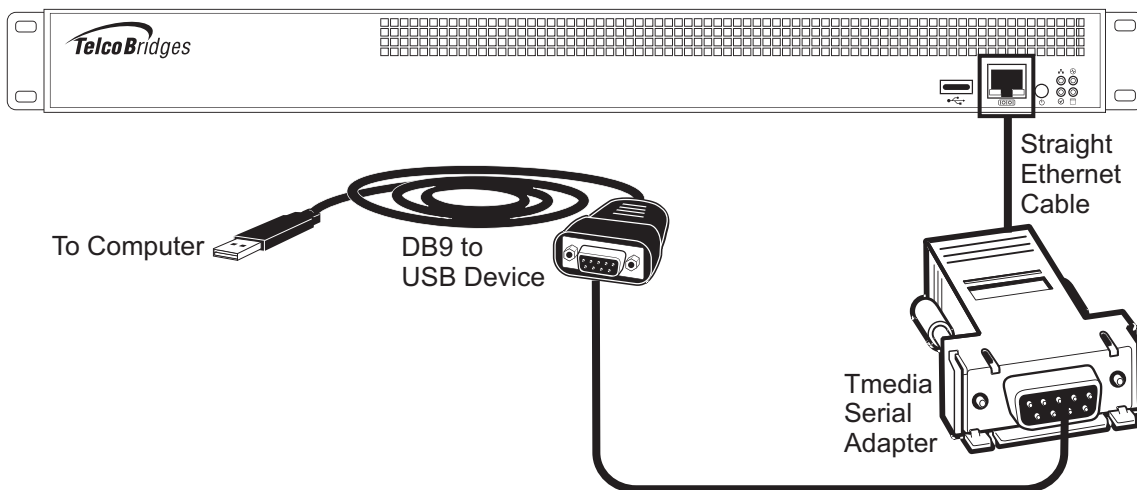

Figure 3.2 Conceptual View of a Serial Connection from the 800 Series Gateway to a Computer
2. If your computer’s serial port features a DB9 connector, use the Tmedia serial adapter supplied with your 800 series gateway. If your computer’s serial port features a USB connector, you will need to provide a USB to DB9 adapter. Refer to figure 3.2 on page 40.